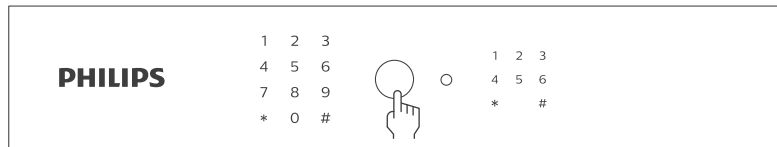

Figure 2
1. Open safe door and press "🔊" on the battery compartment. After hearing a voice prompt "Please enter fingerprint or PIN code", enter your fingerprint as shown in Figure 2. A voice prompt "Fingerprint entering succeeded." indicates successful operation. If the entering fails, there will be a voice prompt "Fingerprint entering failed". The system will automatically exit if there is no entering in 8 seconds.